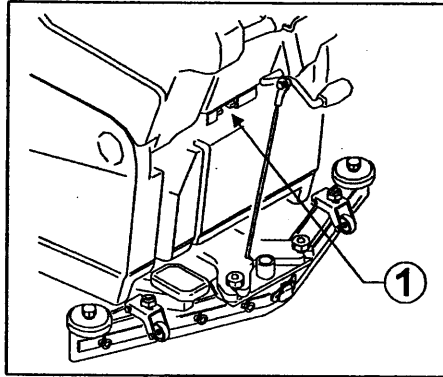

Fig. 14
- connect the battery-charger to the battery wiring connector (fig 14, ref. 1);
- connect the battery-charger connector to the battery wiring connector (fig 14, ref. 1);